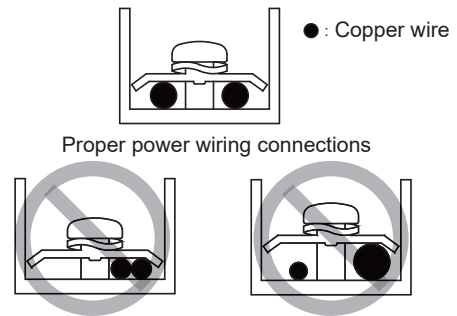

Figure 2
- Do not connect two power cords with different diameters to the same power supply terminal (may cause overheating of wires due to loose wiring) (See Figure 2).